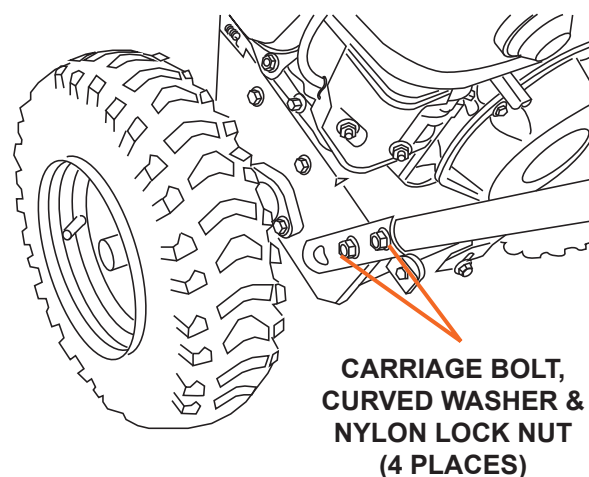

Figure 1
1. Carriage bolts, curved washers and nylon lock nuts have been provided in a hardware package. Align the two holes at each end of the handlebar with the two holes in the handlebar support on the snow blower. Push carriage bolts through from the outside and secure with curved washer and nylon lock nut on the interior in two places on both sides of the snow blower. Tighten securely (see Figure 1).